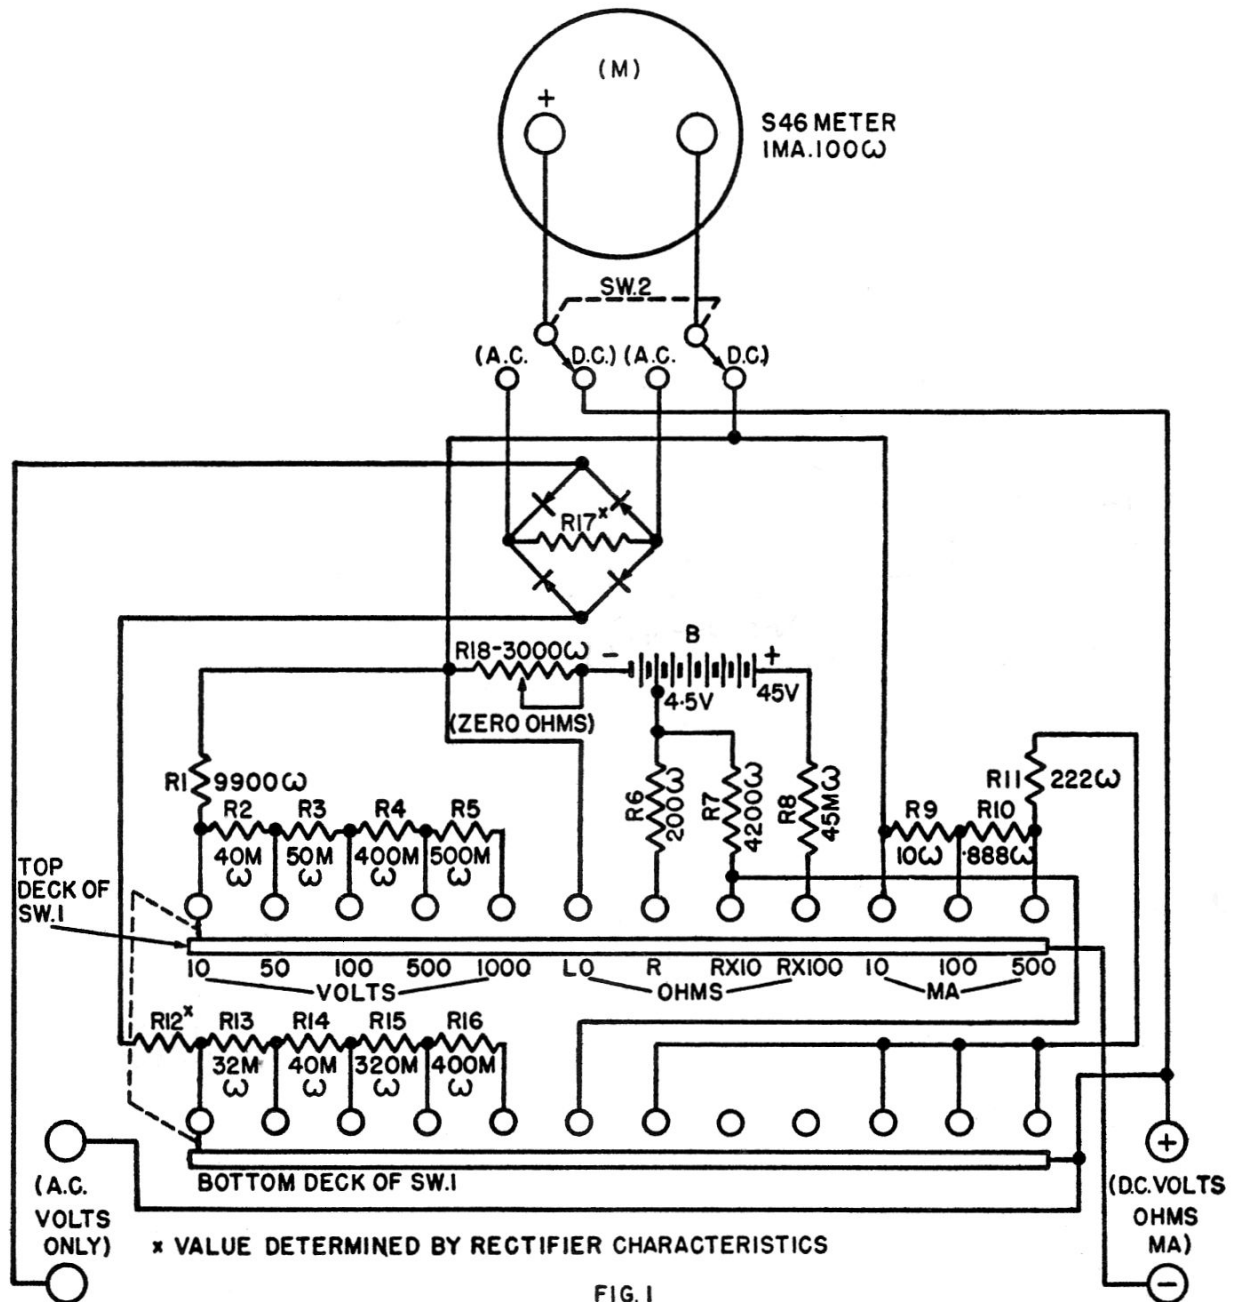

FIG. 1
3.41 CIRCUIT: As may be seen from Fig. 1, the circuit used for this function is comprised of Resistors R6 to R8, the potentiometer R18, the battery B, and the meter. Connections are made to the meter and pinjacks through the AC - DC switch and the top deck of the selector switch.